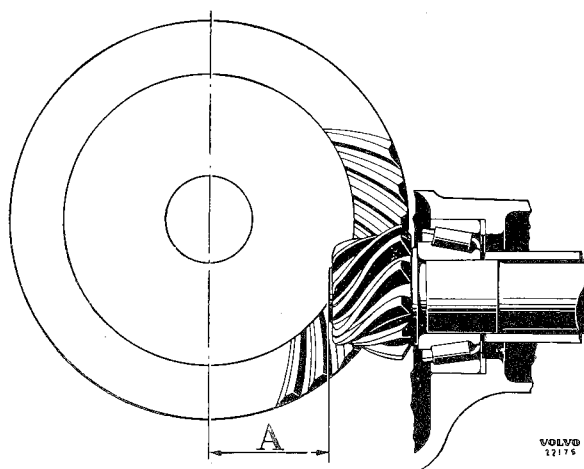

Fig. 4-150. Pinion location
2. The pinion should have a certain nominal measurement (A, Fig. 4-150) to the center line of the crown wheel. Due to tolerances in the manufacturing, there are deviations from the nominal measurement. This is indicated on the ground surfaces on the pinion with a figure.